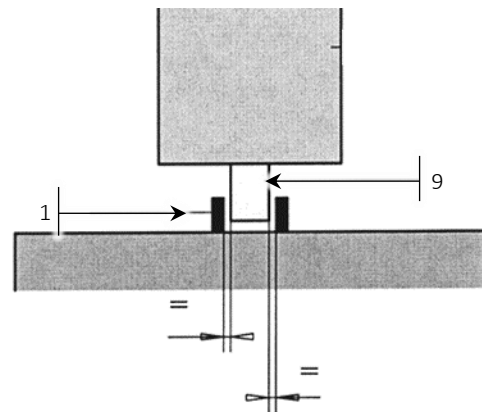

Fig. 6 Center of X Direction
- Loosen the knurled screws (2)
- Move the quick centering device in X direction until the distance between the two centering pins (1) and the pressure plate (9) is exactly the same (see Fig. 6).
- Tighten the knurled screws (2)